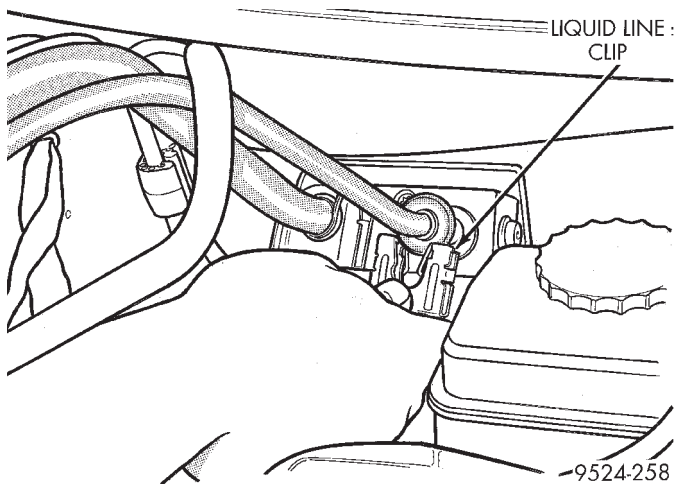

Fig. 58 Liquid Line Clip At Expansion Valve
- (1) Remove refrigerant from the A/C system using a refrigerant recovery machine.
- (2) Remove A/C quick connect clip at expansion valve (Fig. 58).